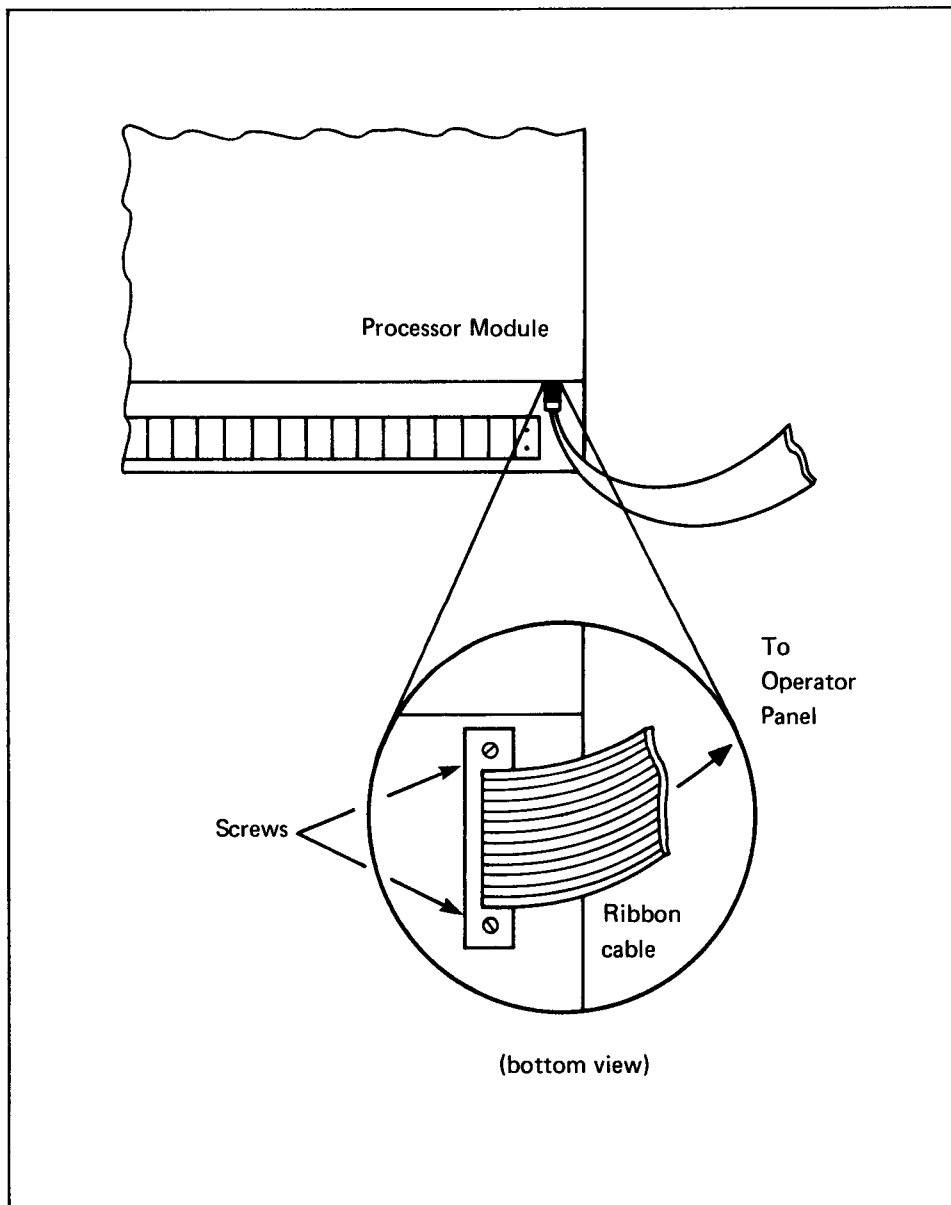

Figure 8.2 – Ribbon Cable Connector
Step 5 – Unscrew the 2 flat-head screws securing the cable connected between the Processor Module and the Operator Panel. (See Figure 8.2.) Note: alternately turn each screw a few turns CCW to prevent the connector from being skewed and damaging the pins.